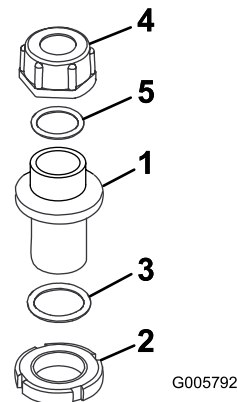

Figure 15
1. Locate the rinse nozzle bulkhead in loose parts. If the bulkhead is shipped assembled, disassemble as shown in Figure 15.